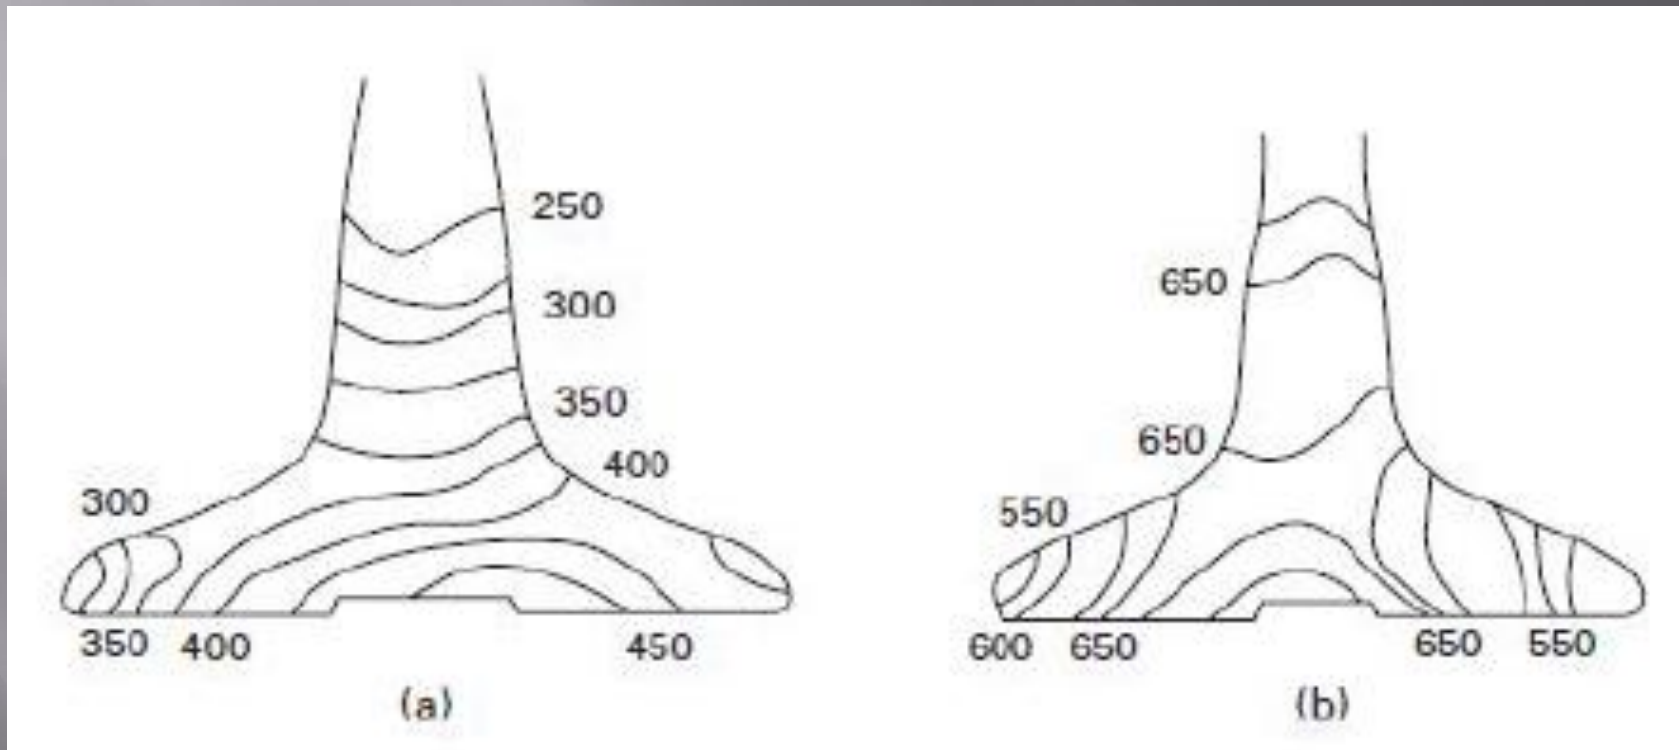

Figure 4.5: Temperature distribution (°C) of valves during operation. An air-cooled 200 cm³ engine. (a) Inlet valve (30 φmm). (b) Exhaust valve (26 φmm).
- ▣ High-performance engines generally use recessed (vertical section is shown in Figure 4.5) or tulip crown shapes.